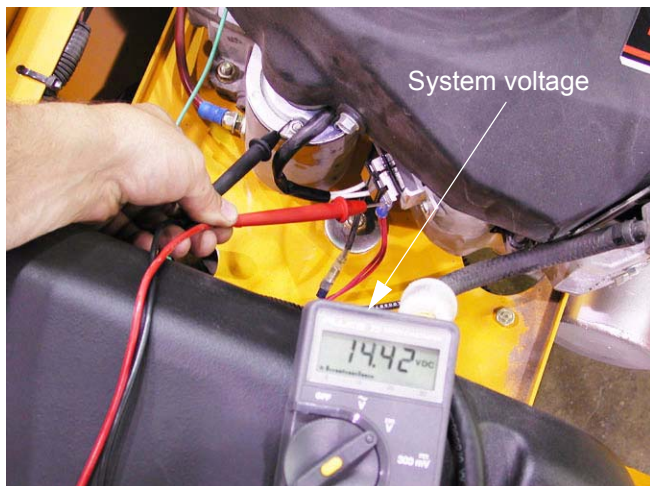

Figure 10.19
10.19. Checking the out-put from the regulator / rectifier, by probing the red wire with the red lead of a DVOM set to read D.C. voltage while grounding the black DVOM lead will show a reading of system voltage. See Figure 10.19.